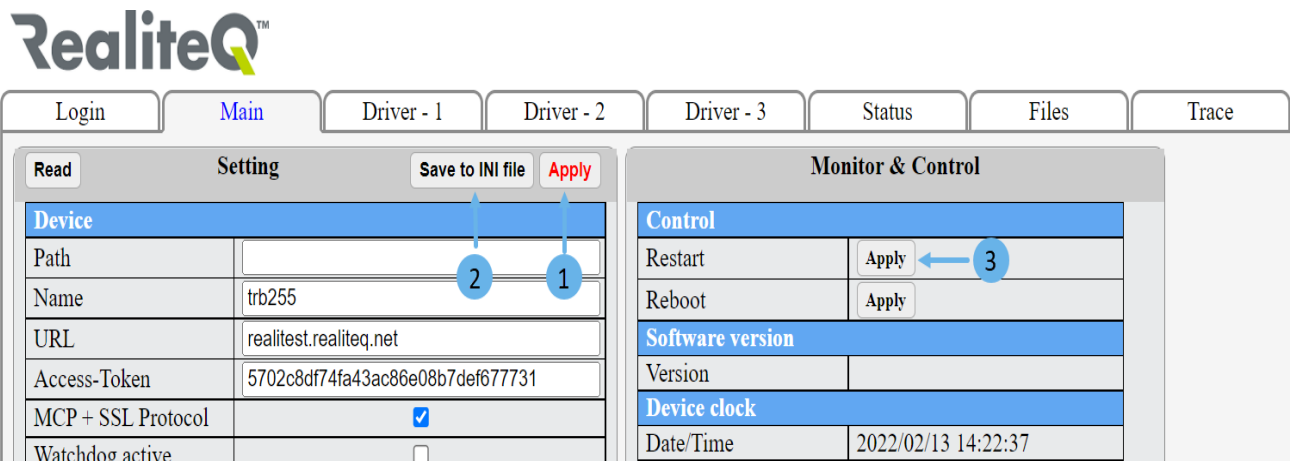

Fig.10 **Apply** changes, **Save on INI file** and **Restart** iCex
- h. When you set/change parameters within specific tab of Configuration UI, button Apply (1), (Fig. 10) changes to red. Apply on it before leaving the tab to save settings.
- i. After finishing **all** settings apply on **Save to Init file (2)** to save changes in iCex flash memory. Then apply on **Restart (3)** your changes to take place. See Fig 10: point 3.